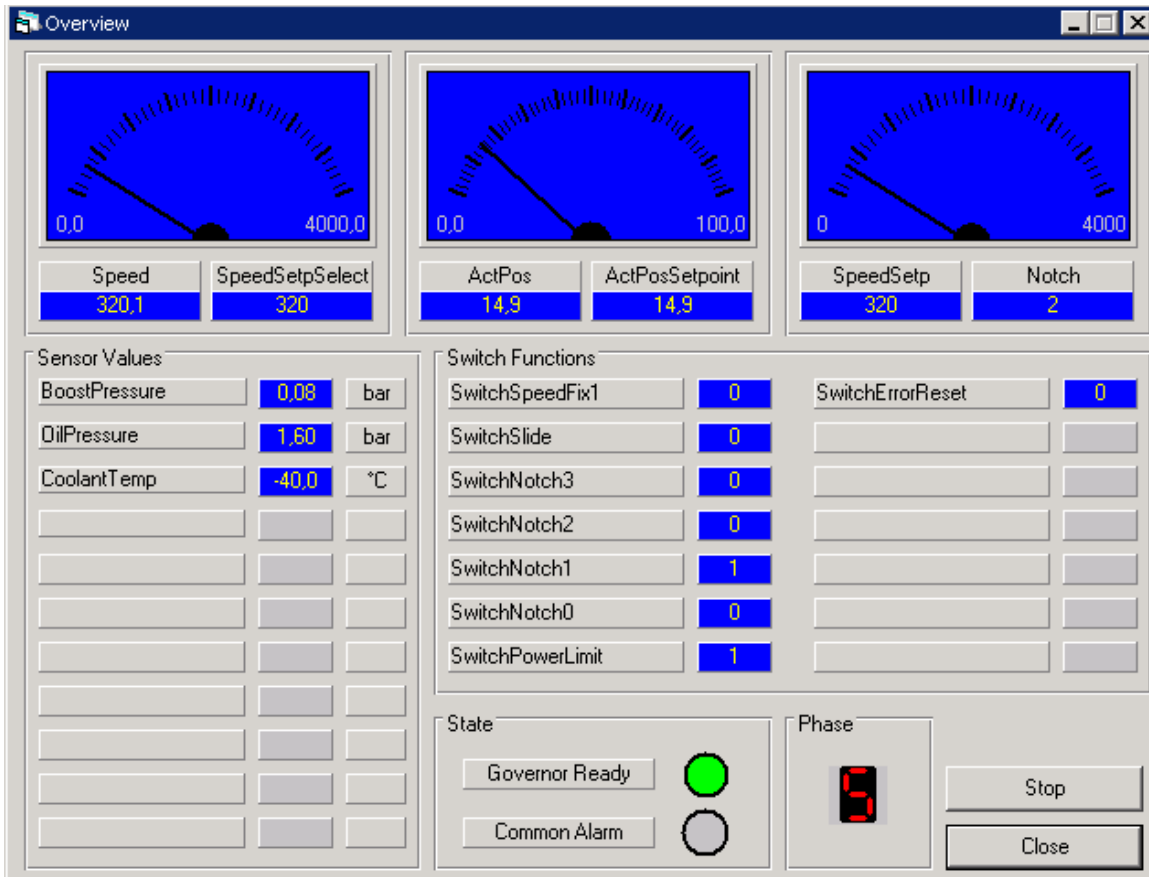

Fig. 20: DcDesk 2000, overview
2) Use *DcDesk 2000, Graphic, Overview* to monitor the solenoid status (see fig. 20). Switch notches must change from 0 to 1, values 2033 *SpeedSetpointSelect* and 3350 *Notch* will show speed setpoint and governor throttle reference number.